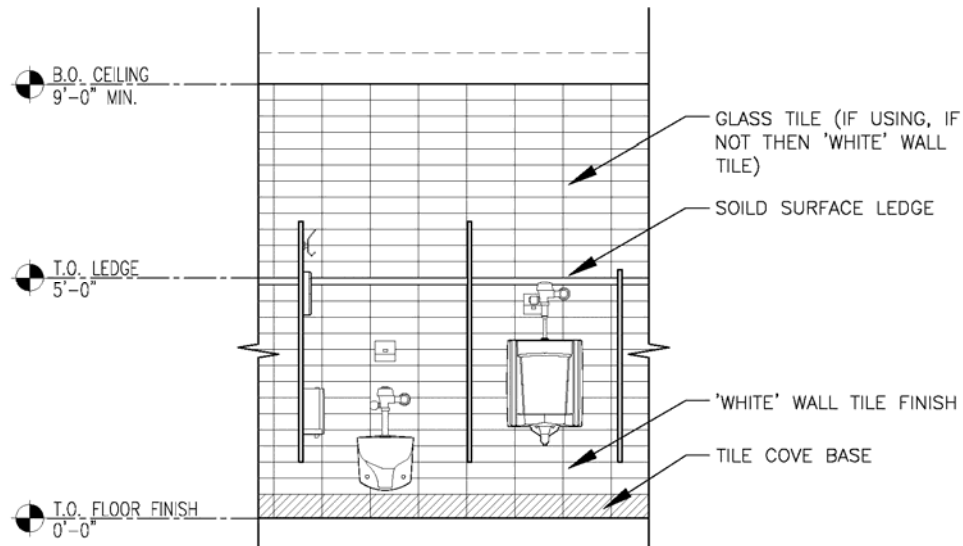

Figure 1.09.2B
- E. Behind water closets where wall field tile ends (approx. 60" AFF) glass color accent tile, starting with a full height tile, will run to the ceiling as shown in *Figure 1.09.2B*.